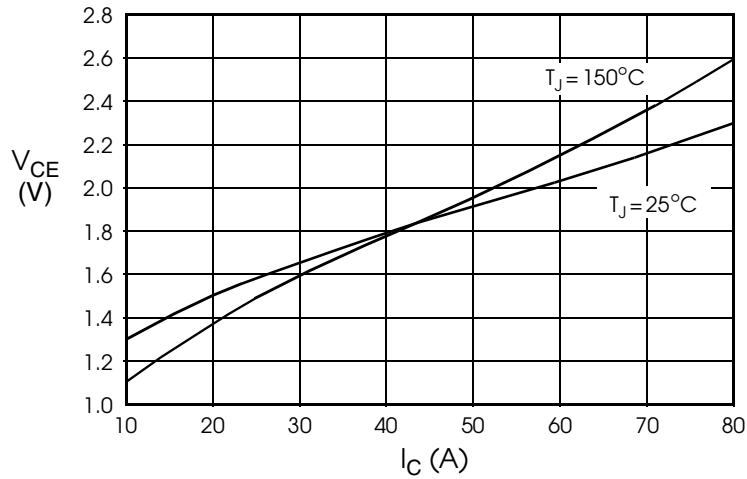

FIGURE 4 - IGBT COLLECTOR-TO-EMITTER VOLTAGE VS. COLLECTOR CURRENT
Calculating IGBT conduction losses requires the user to determine load profiles for the hybrid both in current and time duration. IGBT collector-emitter voltage drops are shown in Figure 4.
- V_{CE} = Collector Emitter voltage from Figure 4 for a particular collector current